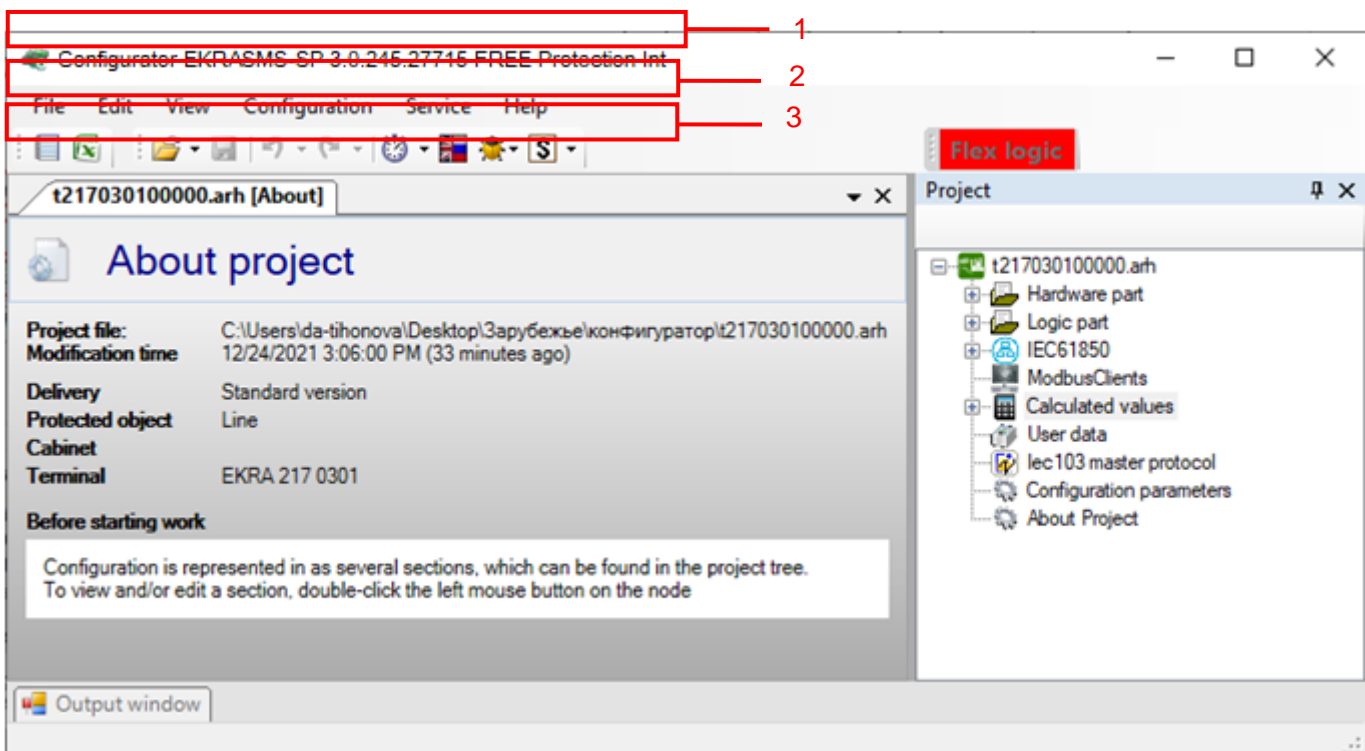

Figure 133 – Main window of the Configurator program
The title text of the window consists of the name of the program, version of the program, type of the edition of the program and has a form shown in figure 133, item 1.
The main menu is located under the title bar of the main menu and has a form shown in figure 133, item 2.
The toolbar provides an alternative way to access the most commonly used commands (figure 133, item 3).